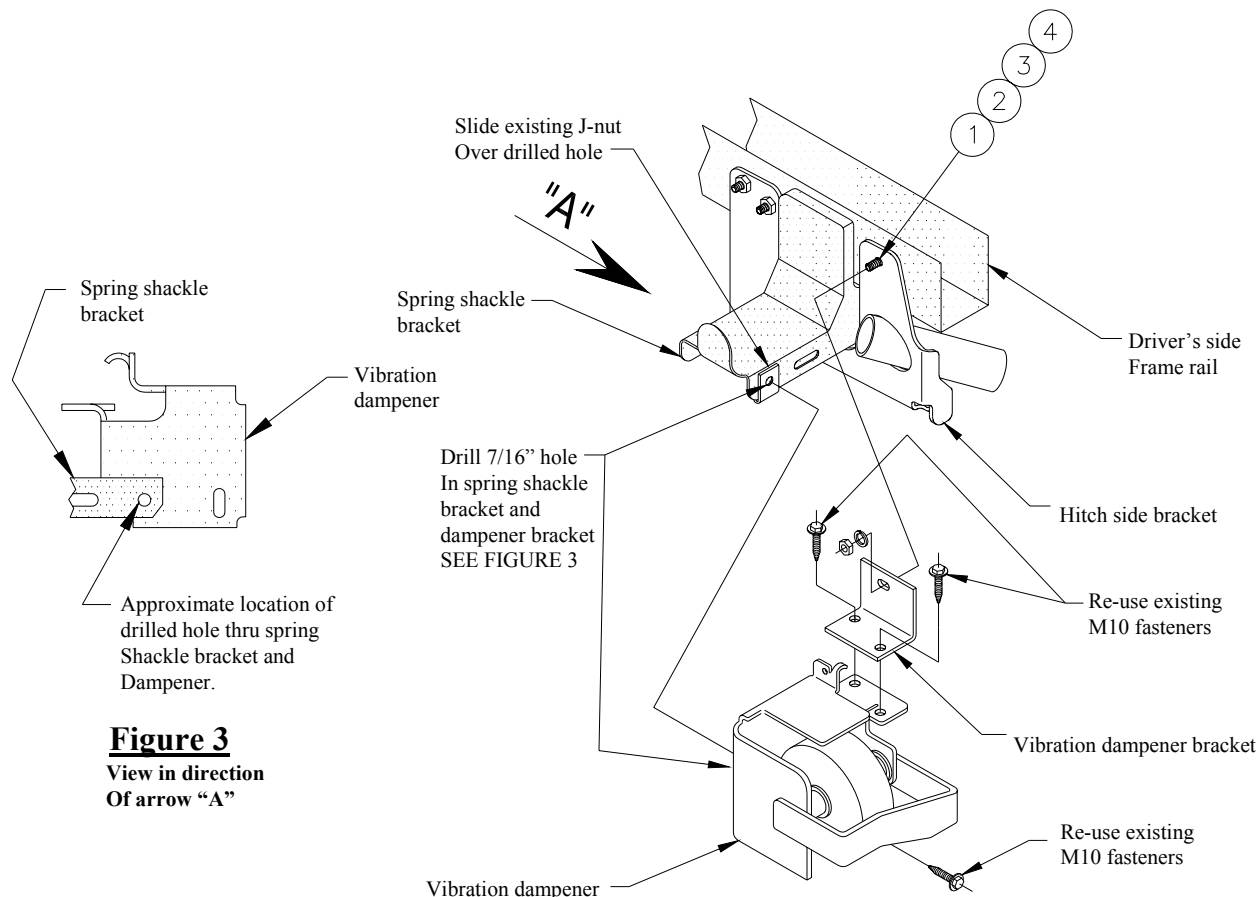

Figure 3
4. Drill $\frac{7}{16}$ " hole thru spring shackle bracket and adjoining face of dampener bracket as shown in Figure 3. Install existing M10 fastener as shown in figure 2.